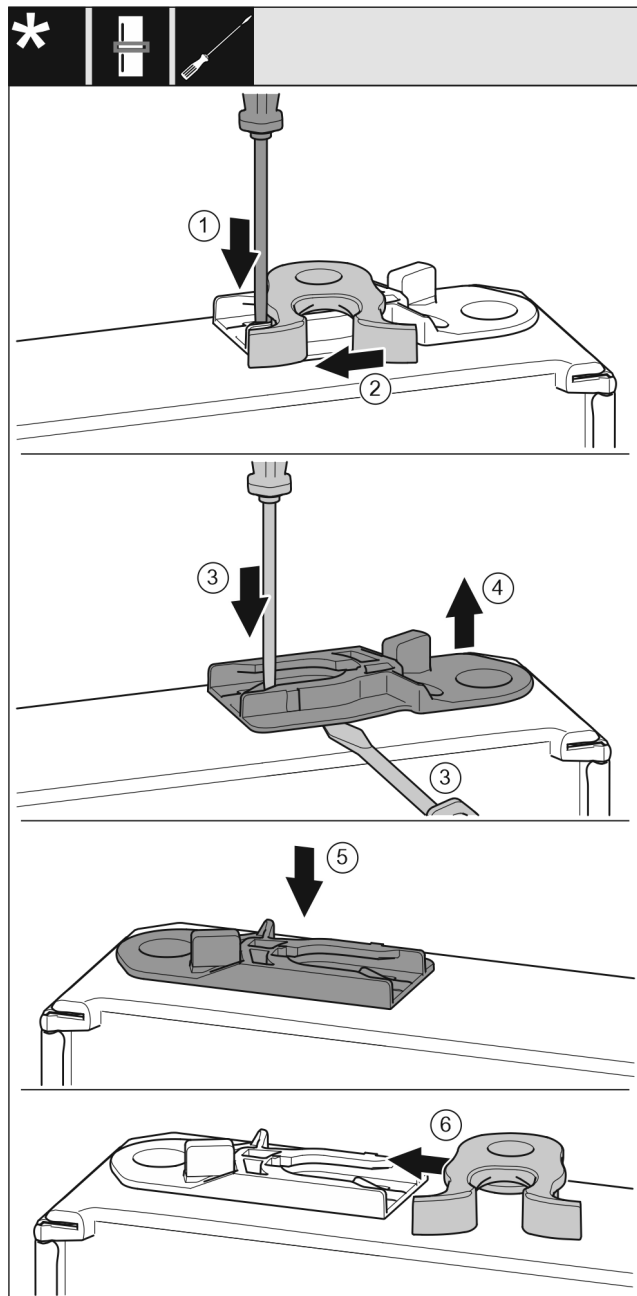

Fig. 18
- Push the lug downward with a slotted screwdriver. Fig. 18 (1)
- Pull the door latch out of the guide. Fig. 18 (2)
- Pull out the guide bush: Press the lug with a slotted screwdriver and, at the same time, insert the slotted screwdriver under the guide bush. Fig. 18 (3, 4)
- Slide the guide bush included in the scope of supply to the other side of the housing. Fig. 18 (5)
- Push the door latch into the guide. Fig. 18 (6)